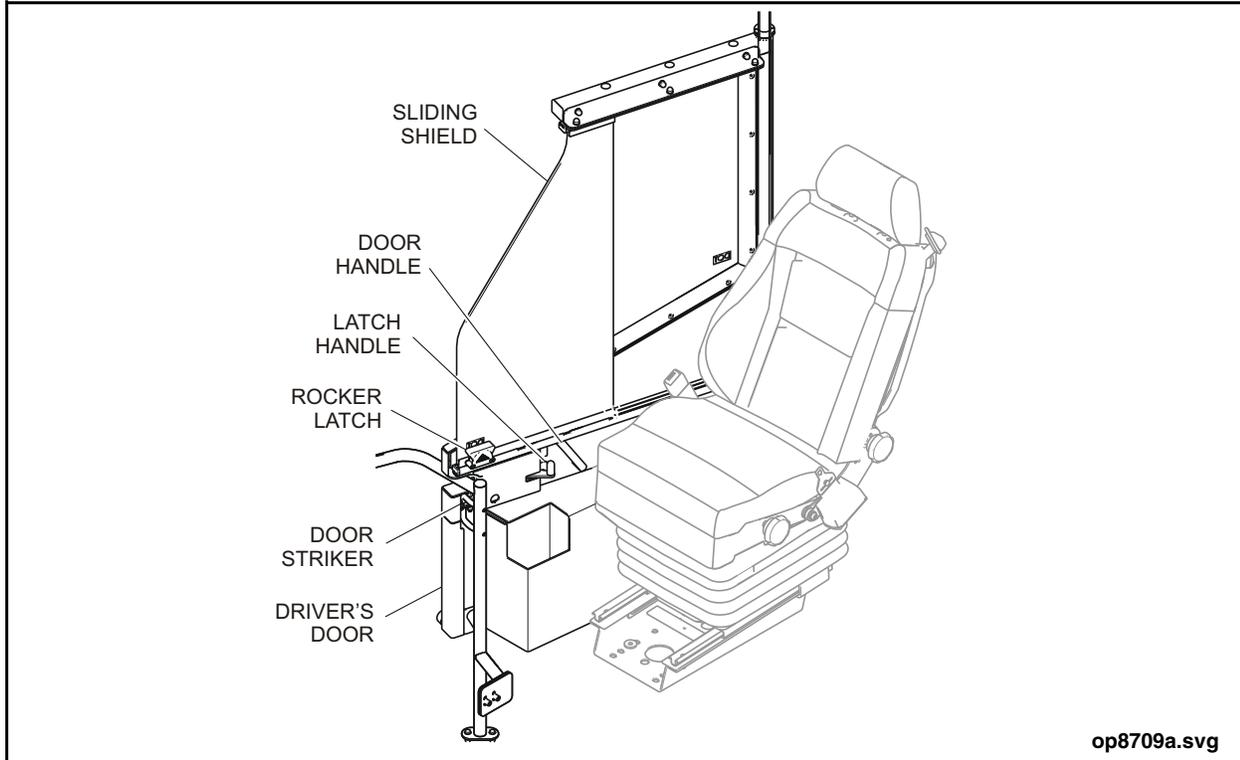

Figure 16: Driver's Door
1. To open door, push the latch handle towards the door and push the door open. See "Figure 16: Driver's Door" on page 46.